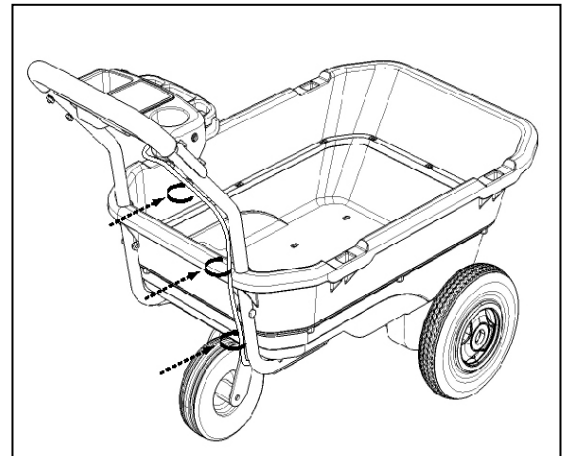

Figure 8. Securing the wire harness to the handle.
- Take the tie wraps from the red hardware bag. One by one, place the tie wraps around the wire harness and handle's tubing (in the locations shown in **Figure 8**), slip the end into the tab, and pull tightly.